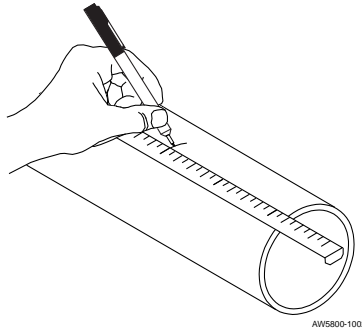

Figure 21. Marking Center of Trunnion Tube
- A. Locate and mark the top center of the trunnion tube. See Figure 21.